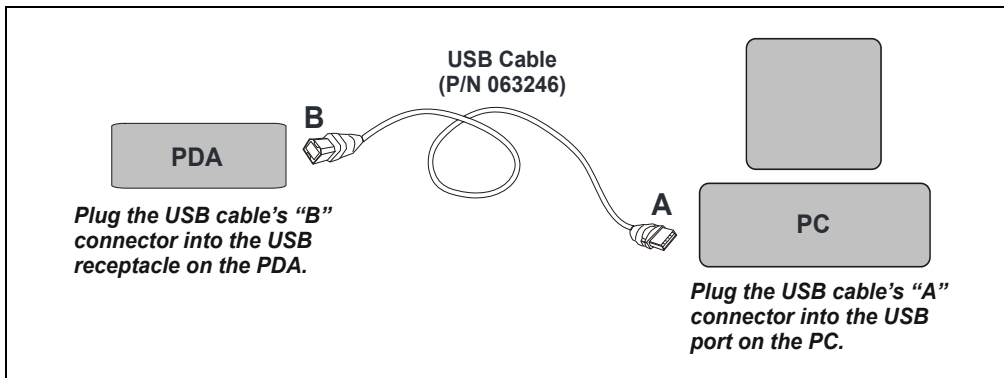

Figure B-5. Dionex PDA Connected Directly to the Chromeleon PC
1. Plug the “A” connector of the USB cable (P/N 063246) into the USB port on the computer (see Figure B-5).